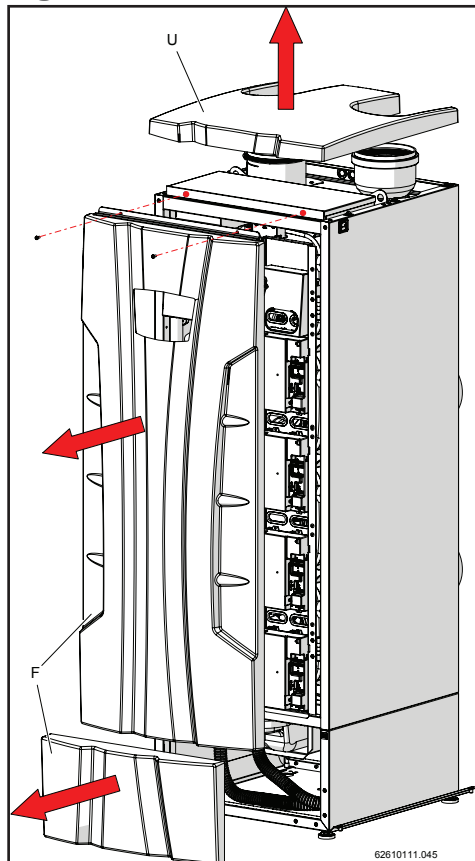

Figure 15-35
- 2.- Remove the boiler's upper and lower front covers "F" and the top cover "U", as shown in figure 15-35.